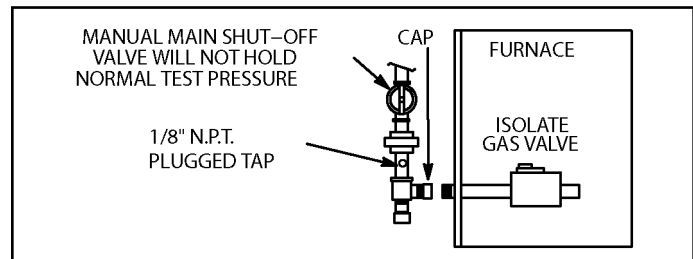

Figure 60.
5. A 1/8" N.P.T. plugged tap or pressure post is located on the gas valve to facilitate test gauge connection. See Figure 60.